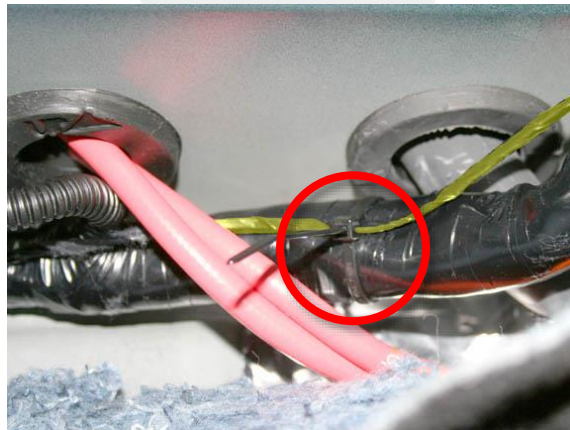

Figure 29 (TPMS harness highlighted)
35. At the base of the sill panel between the HV cables and coolant hose, use a cable tie to secure the TPMS harness to the main RH main harness (Figure 29). Remove any excess tie.